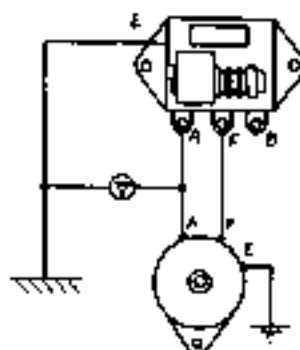

Fig. 8 Wiring hook-up measuring push-up voltage
The voltage is measured by connecting a voltmeter between the A and E terminals as shown in Fig. 8.
- (1) With the connections made as shown in Fig. 8 have the generator at no-load (filter terminal disconnected) and rotating at specified speed (2,500 rpm.)
- (2) Set the pile pressure screw position.
- (3) Tighten the adjusting core (F screw) and determine the push-up voltage. If the F screw is tightened beyond the push-up voltage (10.5 volts/2,500 rpm.), the voltage rises extremely fast so that care should be taken to tighten as slowly as possible when near the push-up voltage.
The voltage at which the cut-out relay points close is checked. This voltage is determined by slowly increasing the speed of the generator and reading the voltmeter connected as shown in Fig. 8 until the points close. The proper cut-in voltage is from 12.7-13.3 volts at 1,250 rpm. If the voltage checked is found to be too high when the points close, the relay adjusting arm shown in Fig. 8 is lowered to weaken the flat spring, and if too low, the adjusting arm is raised to strengthen the spring. However, it should be noted that the proper gap distance of the relay parts are